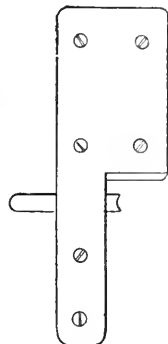

Fig. 14. SCRATCH.
*The Scratch*, Fig. 14. This is a very convenient and ingenious tool. "It is used," says J. S. Gibson ("The Wood-Carver,"